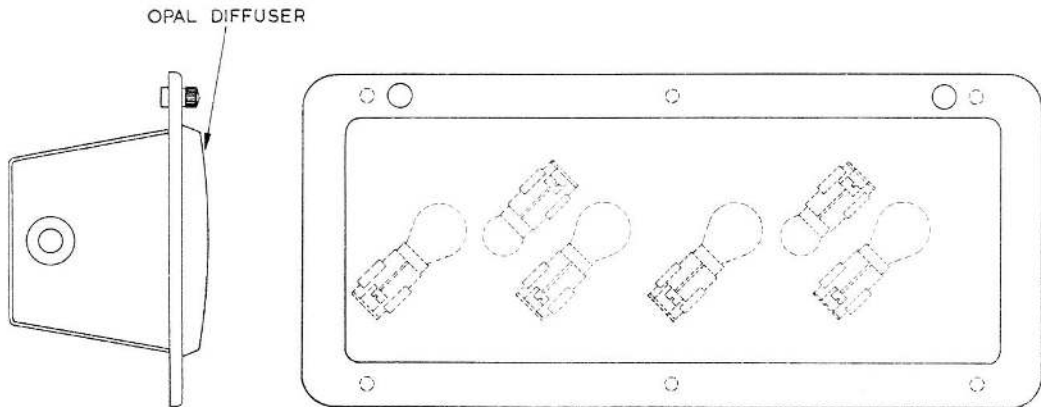

Fig. 1. Side and front views of cabin roof lamp
2. The lamp, shown in fig. 1, consists of a rectangular light alloy base with an opal diffuser screen mounted in an alloy frame which is hinged to the base and held closed by two knurled screws. Six S.C.C. lamp holders are riveted to the base, and in standard roof lamps are fitted with four 28 volt 18 watt frosted filaments and two 28 volt 7 watt blue filaments. The supply